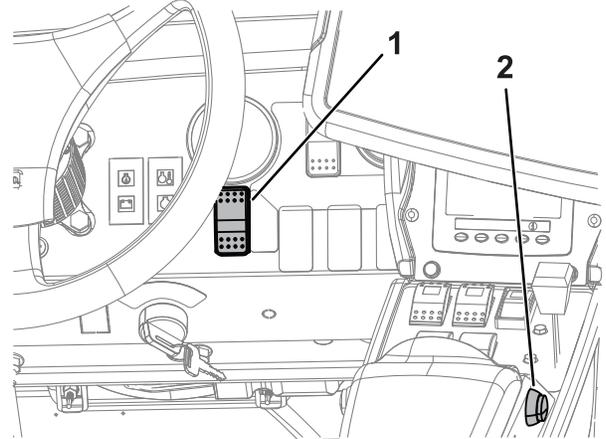
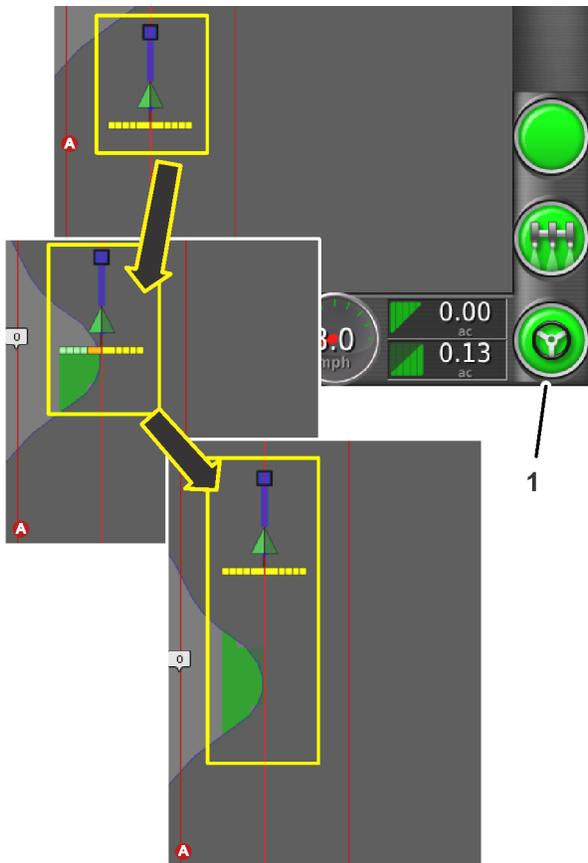

Figure 20
Figure 22
6. Press the Autosteer icon in the lower, right corner of the control console (Figure 22) or press the engage/disengage switch of the machine (Figure 20).